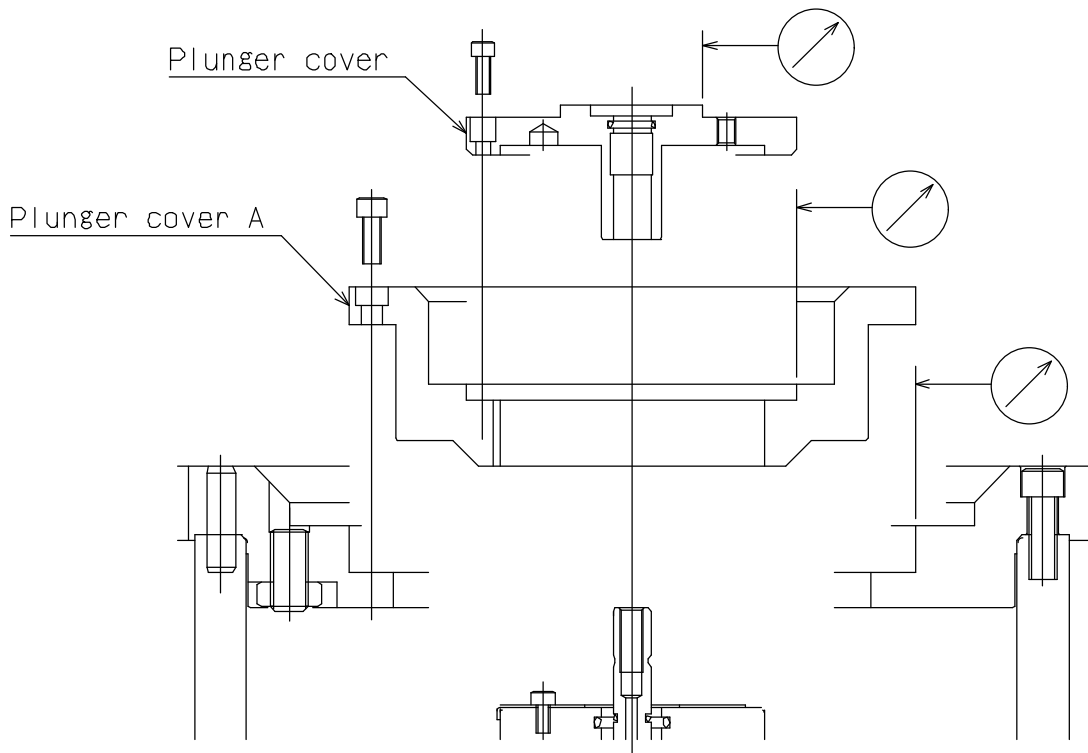

Fig.16
- Install plunger cover (also plunger cover A for FG52M, FG52MV and FG57M), and adjust each part so that the runout of diameter is less than 0.02 mm T.I.R. as shown in Fig.16.